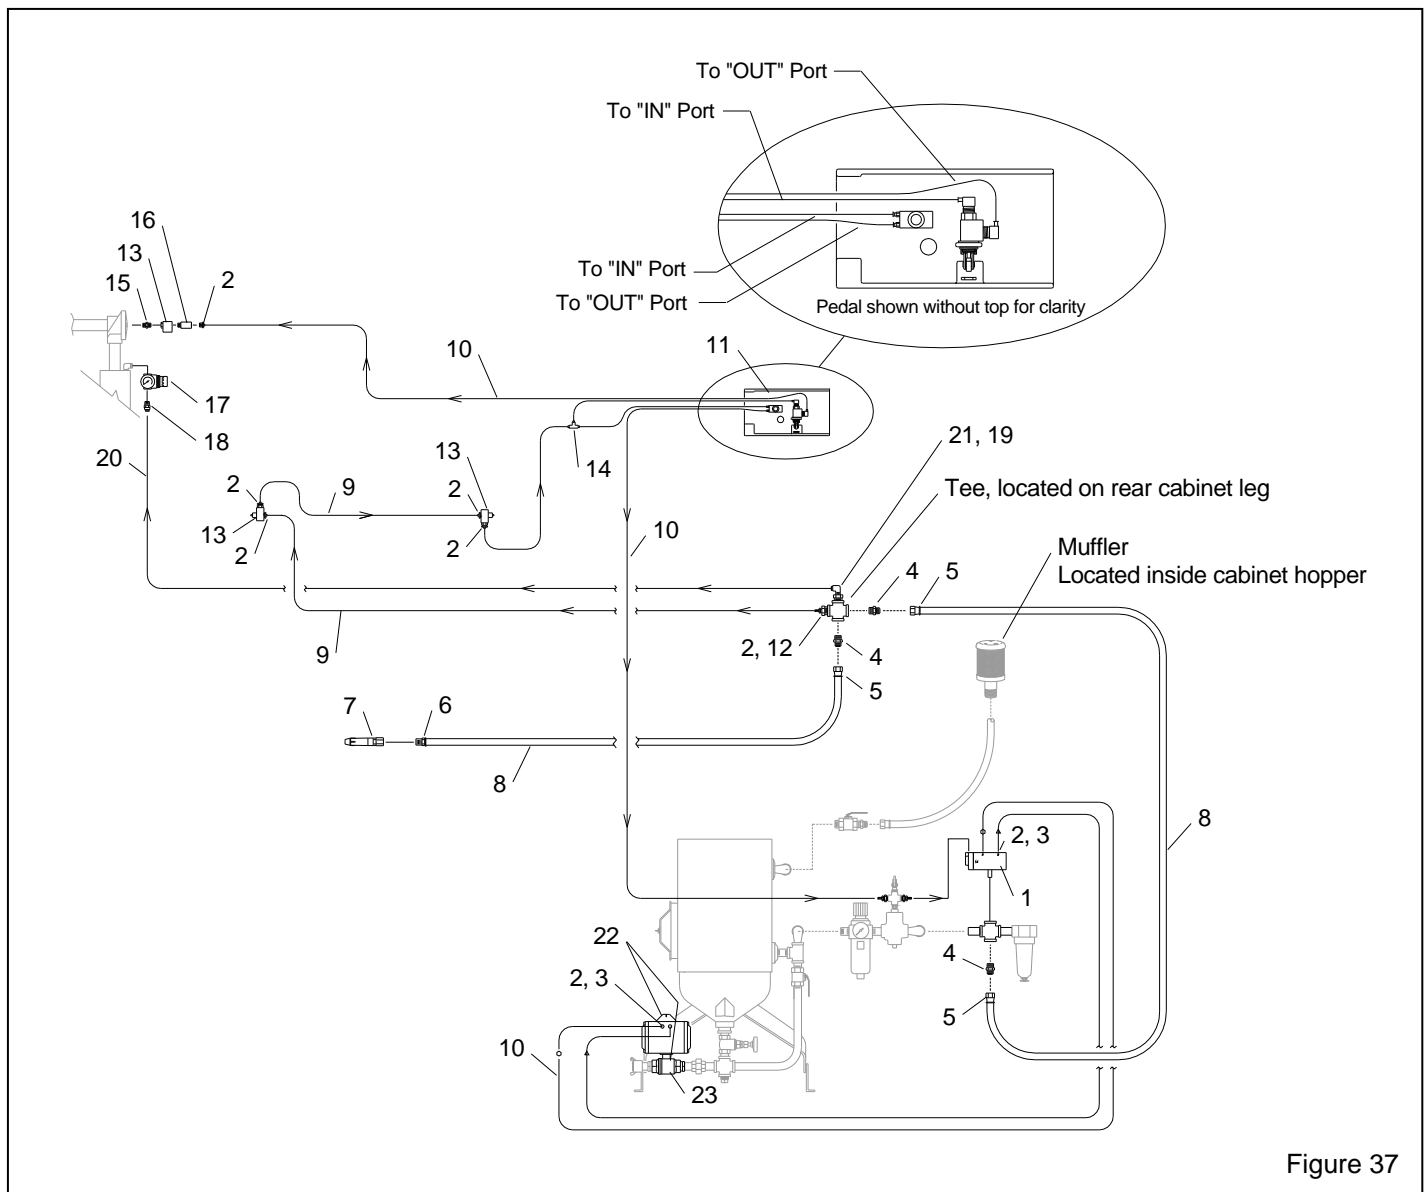

Figure 37
10.7 Controls and Plumbing Schematic – Figure 37